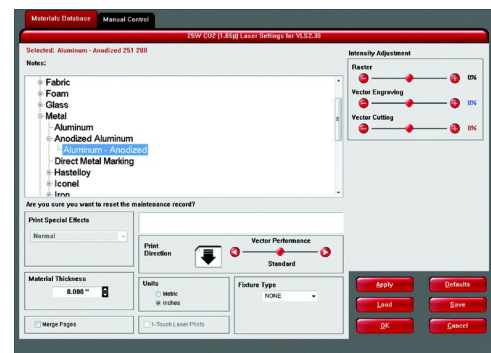

Figure 5
2. When you are ready to print the job, select PRINT from the CorelDRAW FILE menu. Make sure that your laser system printer driver appears in the DESTINATION NAME dropdown list, and then click PROPERTIES (Figure 4) to display your laser system printer driver settings (Figure 5).
3. Choose your material category (metal, in this case) and then select the desired material: Aluminum Anodized (Figure 5).